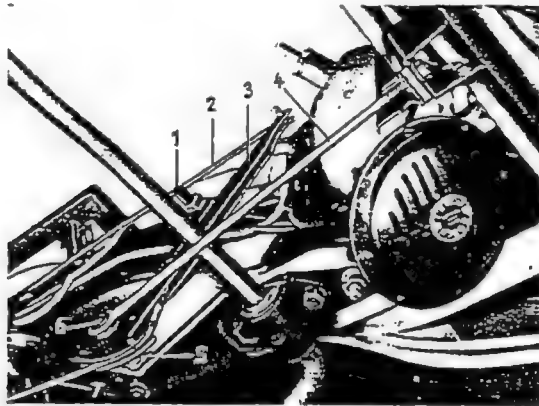

Fig. 42-20/6
Tighten the wing nut (1) on the brake lever (3) (Fig. 42-20/6) or the wing nut (8) on the relay lever (5) (Fig. 42-20/8) until the hand brake begins to take effect when there is a distance of 60—65 mm between the bracket of the guide tube and the damper ring on the ratchet. Correct adjustment of the wing nut enables the ratchet to be pulled out about 12—13 notches to provide a firm grip of the hand brake (Fig. 42-20/9).